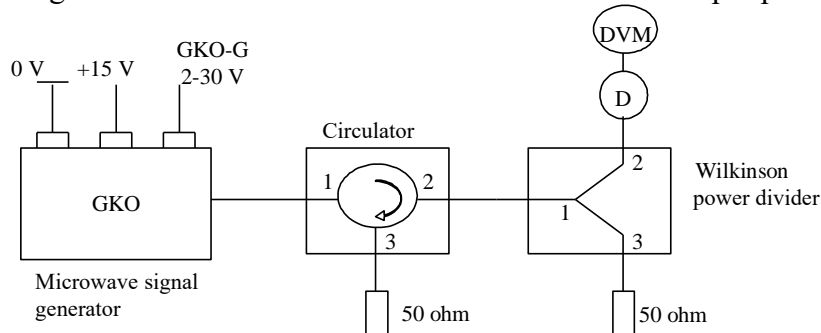

Figure 5: Power divider experimental setup.
1.3 Set up the experimental apparatus as shown in Figure 5.